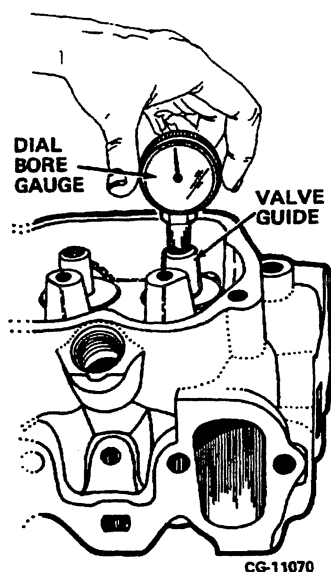

Figure 3.30. Checking Valve Guide Bore
1. Using an appropriate valve guide bore gauge or a telescoping gauge and micrometer, check for proper guide bore diameter (see SPECIFICATIONS), Figure 3.30.